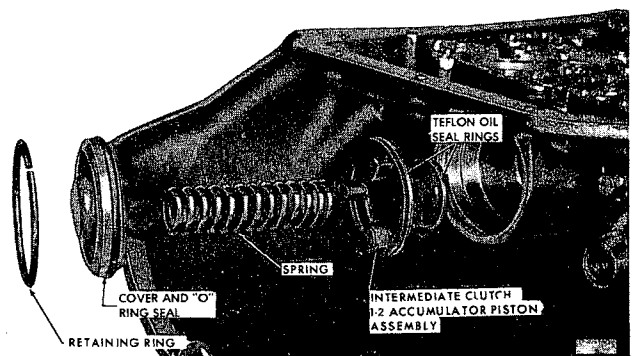

Figure 7C-78 Intermediate Clutch 1-2 Accumulator
3. Remove intermediate clutch 1-2 accumulator piston spring. See Figure 7C-78.